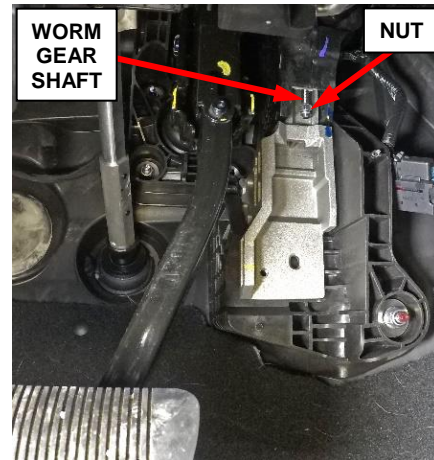

Figure 7 – Worm Gear Shaft
- 6. Install the spacer (band-clamp) onto the pedal assembly worm gear shaft just above the nut (Figures 7 and 8).